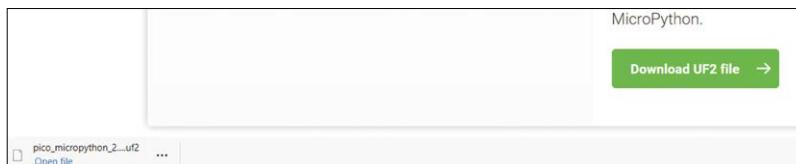

Figure 2.18. Download the "UF2" file.
- Click on the **Getting started with MicroPython** tab and click **Download UF2 file** to download the **MicroPython** firmware. You should see the downloaded file at the bottom of the screen. This will take only a few seconds (Figure 2.18).